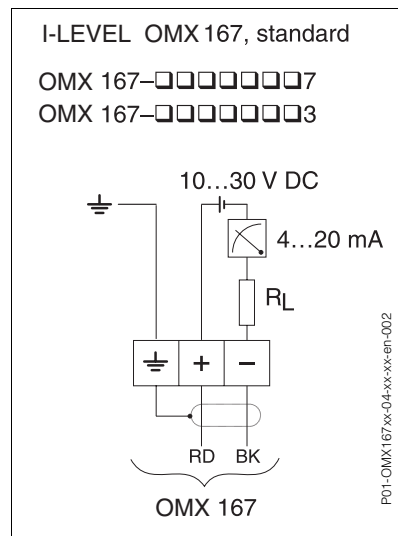

Fig. 5: Electrical connection
- Connect device acc. to Figures 5. A polarity protection is integrated in the I-LEVEL OMX 167. Changing the polarities will not destroy the devices.
- Is the device connected as shown in Figures 5?